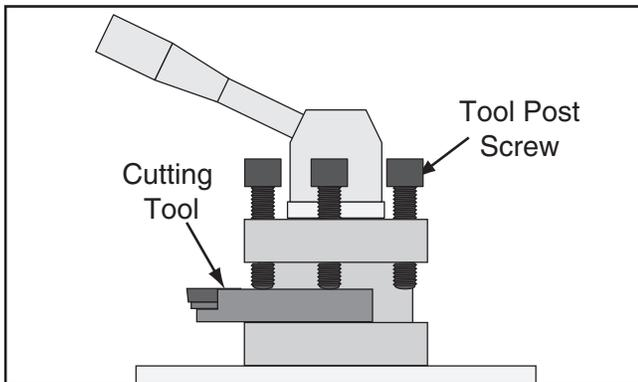

Figure 53. Example of tool mounted in tool post.
1. Adjust the tool post screws so that the cutting tool can fit underneath them (see **Figure 53**).